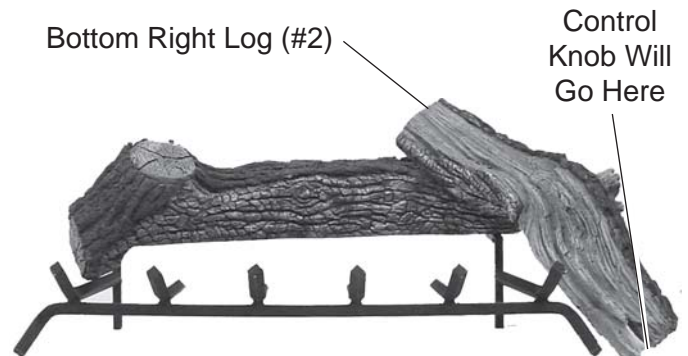

Figure 139 - Placing Bottom Right Log (#2)
3. Place Bottom Right Log #2 along outside of grate. Rest end on Rear Log #1. Control knob will stick through bottom notch of log. See *Figure 139*.